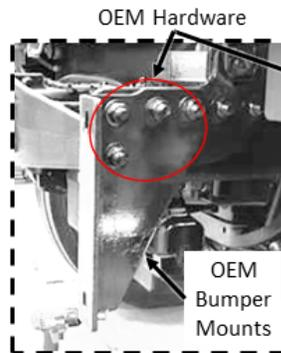

Figure 2c:
3. Remove the OEM Bumper Mounts as shown in Figure 2c.